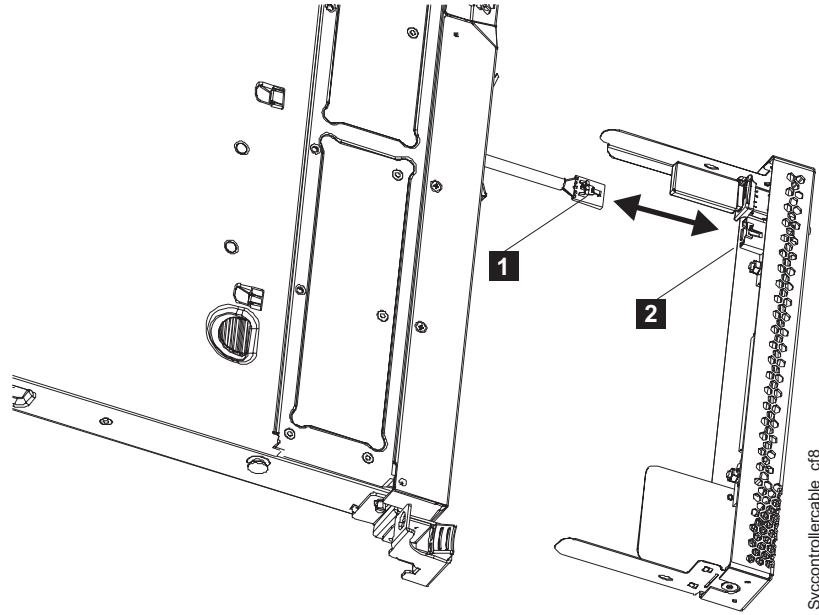

Figure 79. Removing and replacing the USB cable in the SAN Volume Controller 2145-CF8 service controller
- a. Disconnect the USB cable (**1** in Figure 79) from the service controller (**2**).
d. Install the other end of the USB cable in the USB connector (**2** in Figure 79 on page 95) on the rear of the service controller.